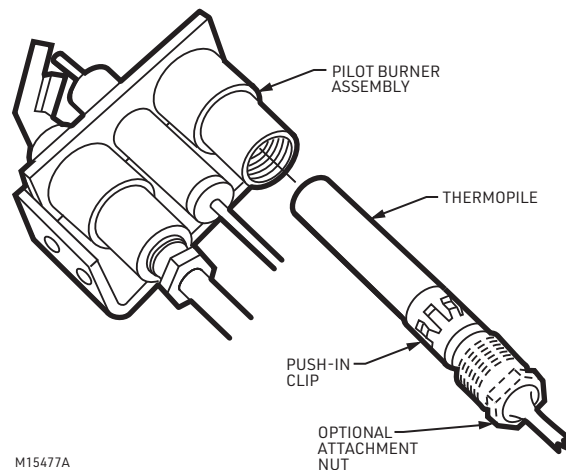

Fig. 2. Installing thermocouple/thermopile with push-in clip.
1. Insert thermocouple/thermopile tip into hole or barrel provided beneath the pilot burner (see Fig. 2).